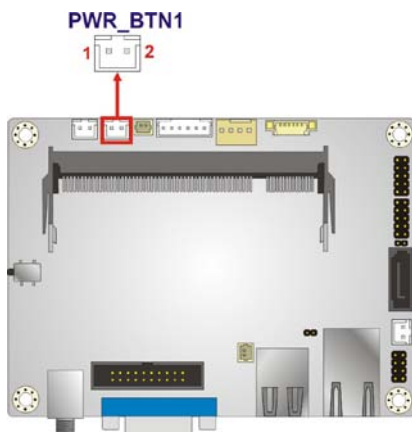

Figure 3-14: Power Button Connector Location
- CN Location: See **Figure 3-14**